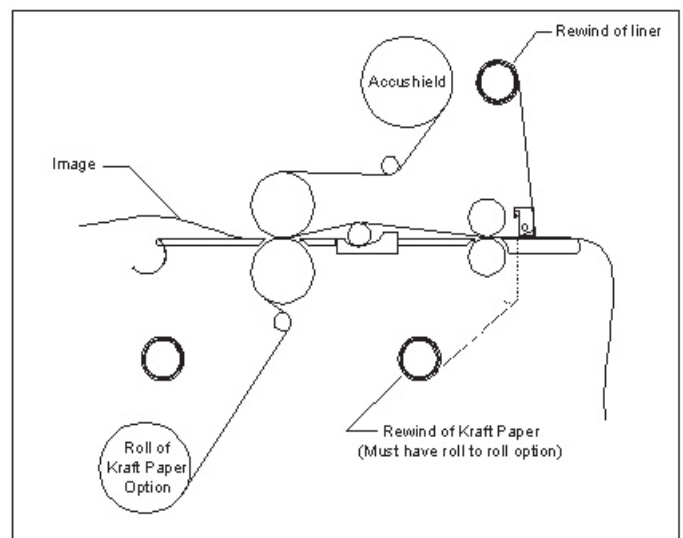

Fig 42
Tips for Accushield (Figure 42)
1. Load the laminator as illustrated in Figure 42.